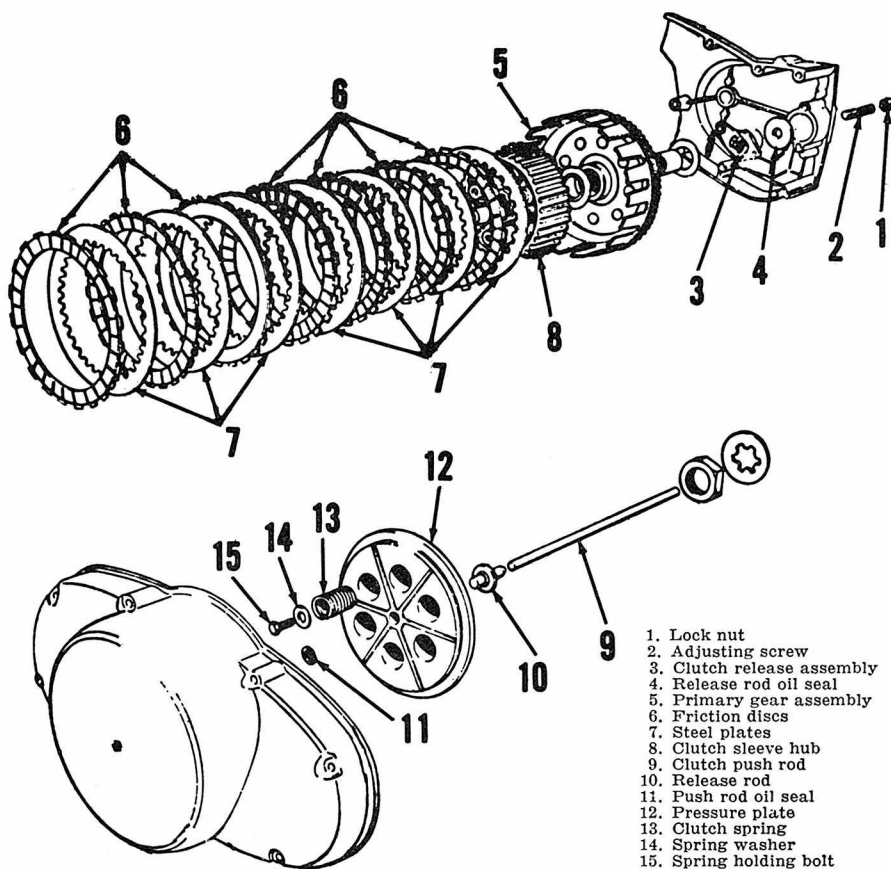

Fig. S7-18—Exploded view of clutch assembly used in the T500 Suzuki.
**CLUTCH.** The multi disc, wet type unit is operated by a push rod running through the counter shaft. Standard thickness of friction disc (6—Fig. S7-18) is 0.138 inch (3.5 MM). Discs should be renewed if worn thinner than 0.126 inch (3.2 MM). Standard free length of clutch springs (13) is 1.58 inch (40.4 MM). Renew springs less than 1.53 inches (39 MM) in length. Inspect clutch primary gear assembly (5) for axial play and loose rivets. Inspect clutch hub (8) for step wear on splines from steel plates (7).